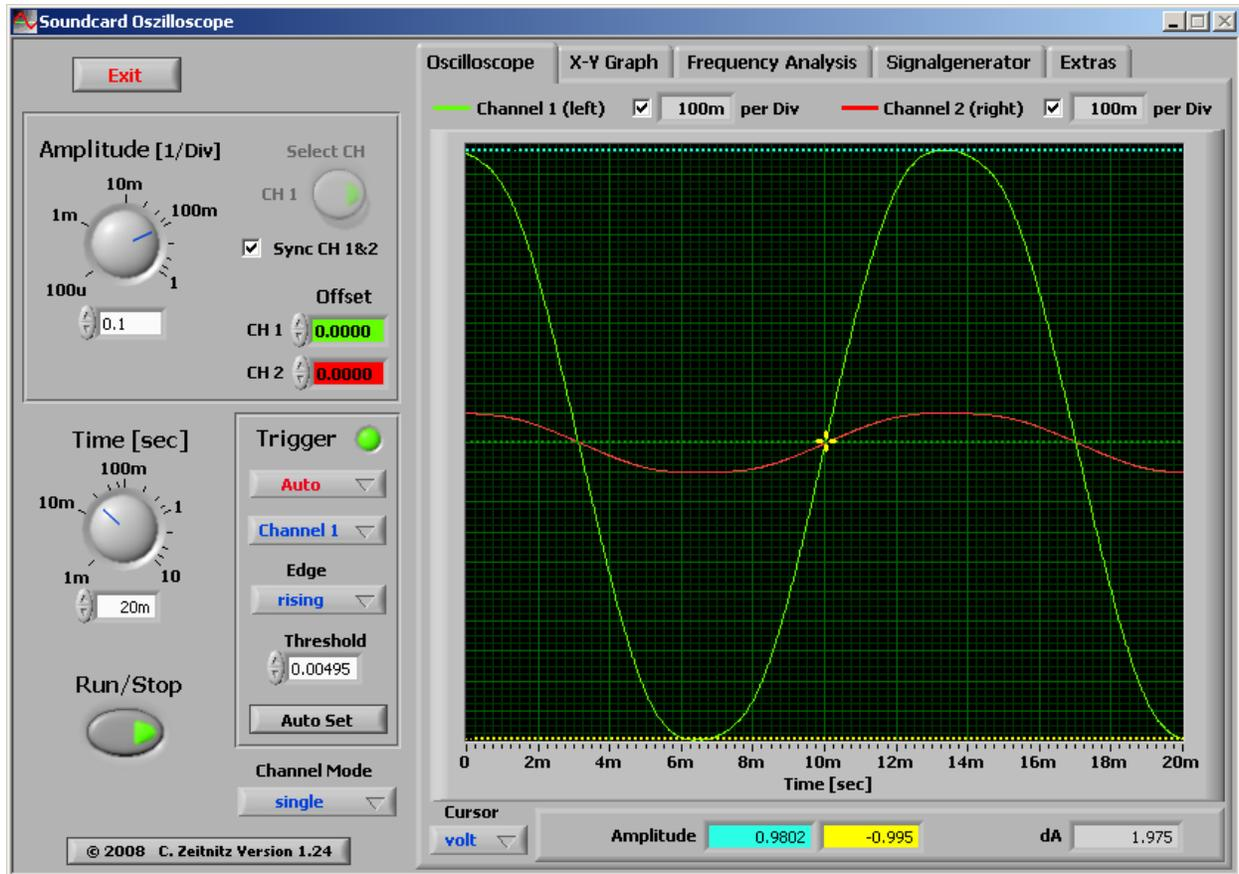

Figure 5: Using voltage cursors to display peak-to-peak voltage.
15. Change the left attenuator to 1x and the right attenuator to 10x. The resultant waveform should look like Figure 5.
16. In the Zeitnitz window, set Cursor to "volt." Using the left mouse button drag the upper cursor to the top of the larger waveform. Drag the lower cursor to the bottom of the larger waveform. See Figure 5. The "Amplitude" windows show the values of each cursor and the "dA" window shows the difference between the cursors' values. In this example, the MY-64 measured 0.741 volts RMS, at the op-amp output, and the "attenuator+UCA202+Zeitnitz" combination indicates 1.975 volts peak-to-peak. We would expect to see $(0.741) * (2.8[\text{P-P conversion}]) = 2.10$, so we have an error of 5%, which is reasonable, given component and human errors.